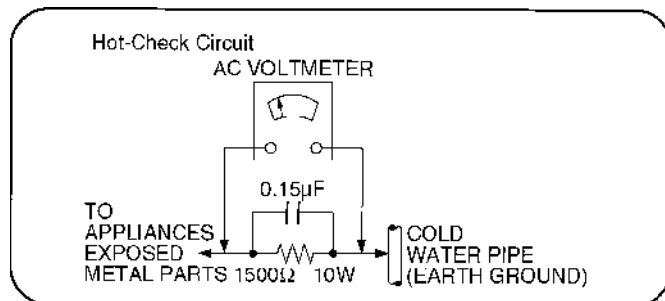

Figure 1
2.1.2. Leakage current hot check (See Figure 1.)
2. Connect a $1.5\text{k}\Omega$, 10 watts resistor, in parallel with a $0.15\mu\text{F}$ capacitors, between each exposed metallic part on the set and a good earth ground such as a water pipe, as shown in Figure 1.